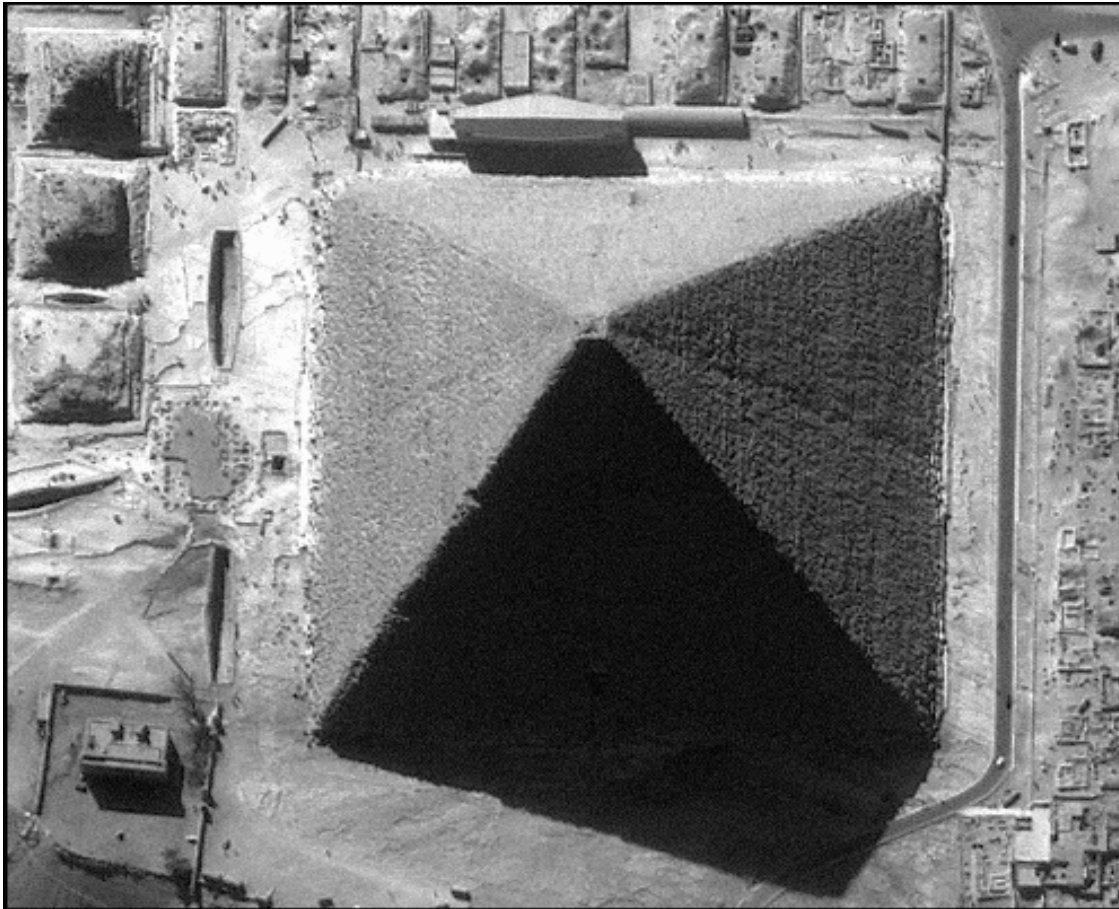

Figure 20. Cheops Concavity
- The concavity of the pyramid (see Figure 20) *could* have had the effect of focusing exterior electromagnetic energy upon the north face of the pyramid to the center of the concave surface which in turn would refocus the energy into the Kings Chamber Northern Shaft (wave guide), into the Kings Chamber, and directly upon the north face of the Sarcophagus
photo in Figure 20 was taken by the IKonos satellite (a commercial earth observation satellite) and can only be seen under specific conditions as stated below:
- Figure 20. IKonos satellite